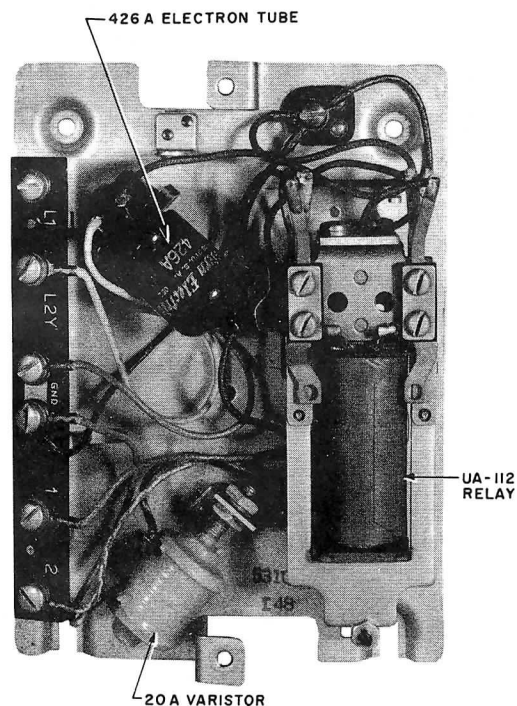

Fig. 1 - 531C Subscriber Set
3.01 These sets have similar components. They both contain a UA-112 relay, a 20A varistor, and a 426A electron tube (Fig. 1 and 2).